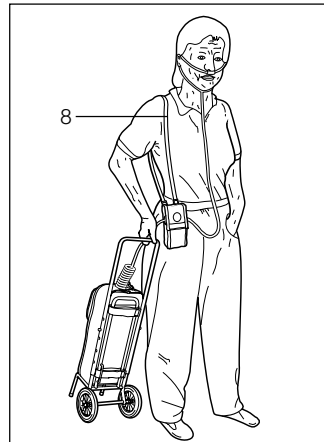

Fig. 13
- Take the OXYTRON®2 out of the carrying bag and use the carrying strap (8) to hang it over the shoulder (see Fig. 13).